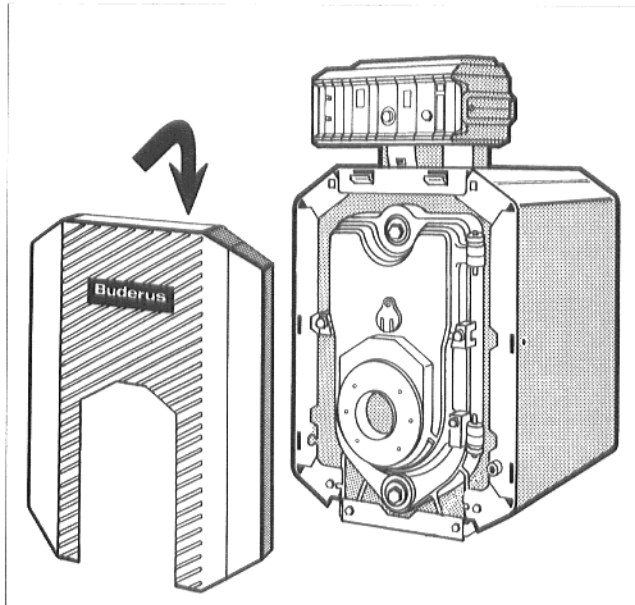

Fig. 37
- Replace the burner door cover or burner hood to the side panels of the boiler cover. Secure the cover on both sides with fastening screws (Fig. 37).